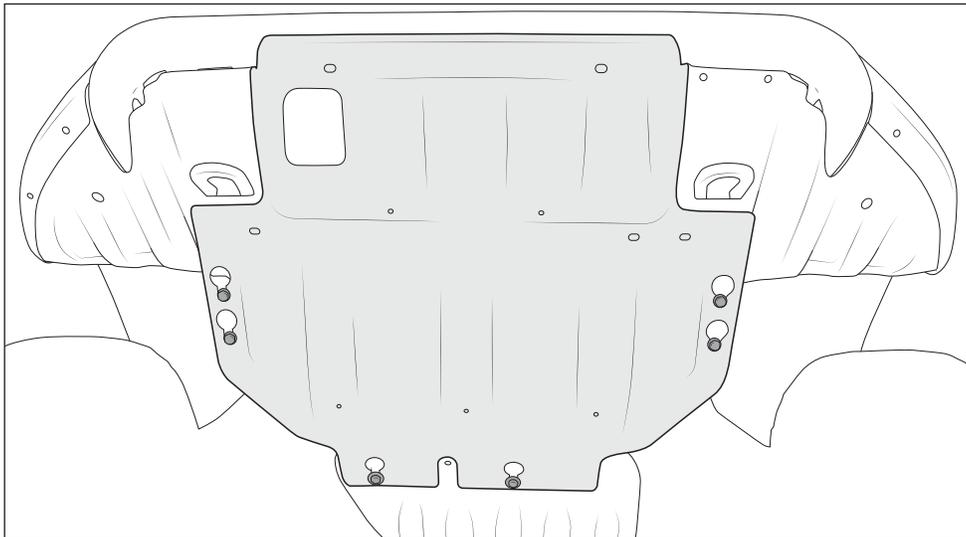

Figure 18
12. Install lower front skid plate loosely with the QTY 6 M10 bolts (fig. 18).